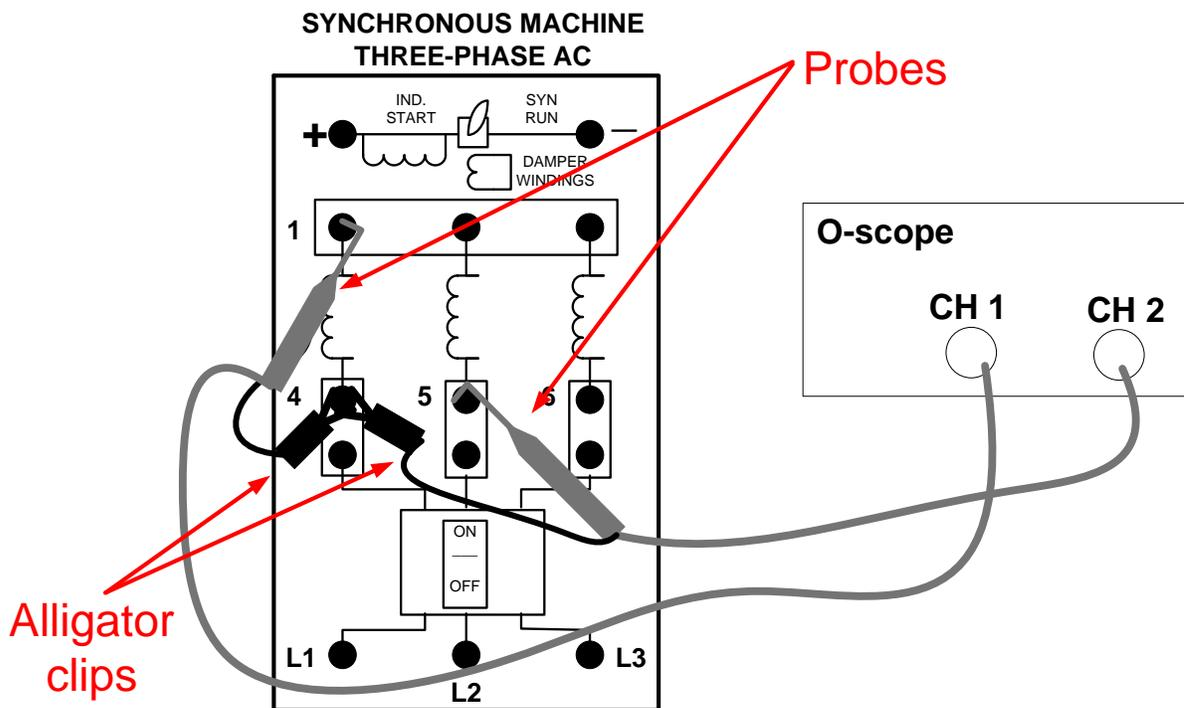

Figure 9
- Using the probes, connect your oscilloscope so that it will measure the voltage across E_{NA} and E_{BA} (Figure 9).